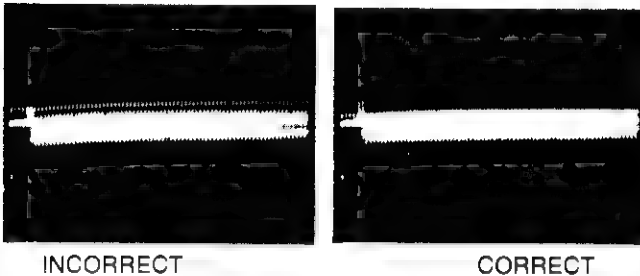

Fig. 23—Chroma Null
4. Adjust R3329 for minimum p-p signal see Figs. 23 & 28